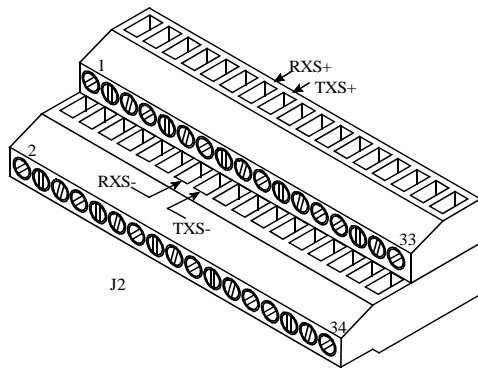

Figure 7-14 J2 TERMINAL BLOCK (SECONDARY)
- Inject a 1.2 kHz tone from a **balanced** 600 ohm source, at the level determined by the type of line used, into TXS+ and TXS- of J2 located on the back of the Repeater (see Figure 7-14).
4. Connect a **balanced** AC Voltmeter with a 600 ohm input impedance between balanced lines RXS+ and RXS- of J2 located on the back of the Repeater (see Figure 7-14).